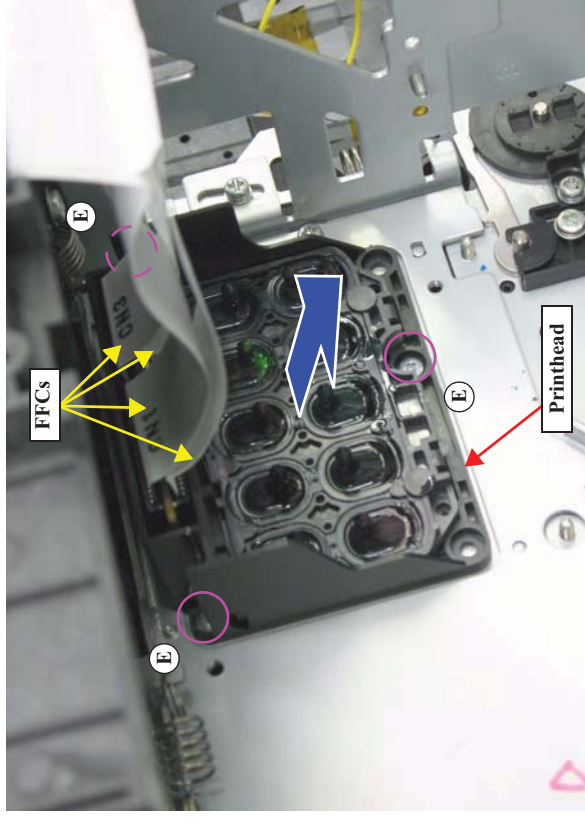

Figure 4-122. Removing the Printhead
16. Disconnect four FFCs from the Printhead. See *Figure 4-122*.
17. Remove the three screws that secure the Printhead, and remove the Printhead. See *Figure 4-122*.